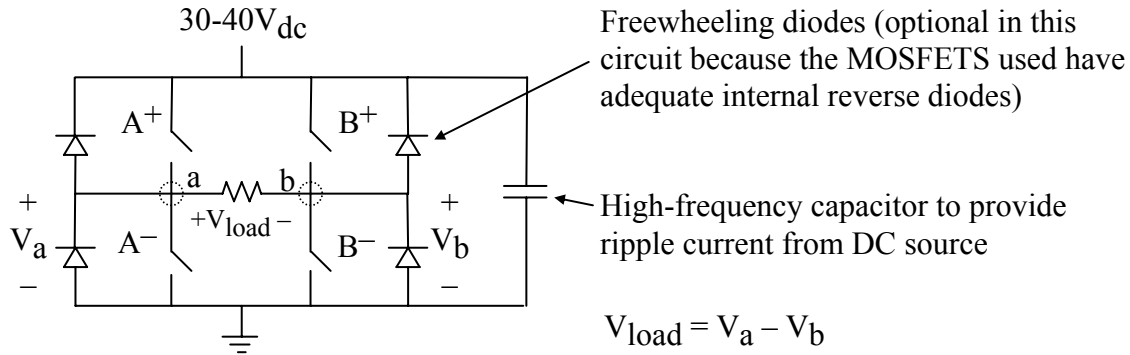

Figure 2. Four MOSFET switches configured as an H-Bridge
The illustration given has $m_a = 0.9$, where m_a is the ratio of peak control voltage to peak triangle voltage. The logic used to operate the four switches in the H-Bridge configuration of Figure 2 is as follows:
- node voltages V_a and V_b in Figure 2 will be working-voltage replicas of firing signals V_A and V_B , respectively, and